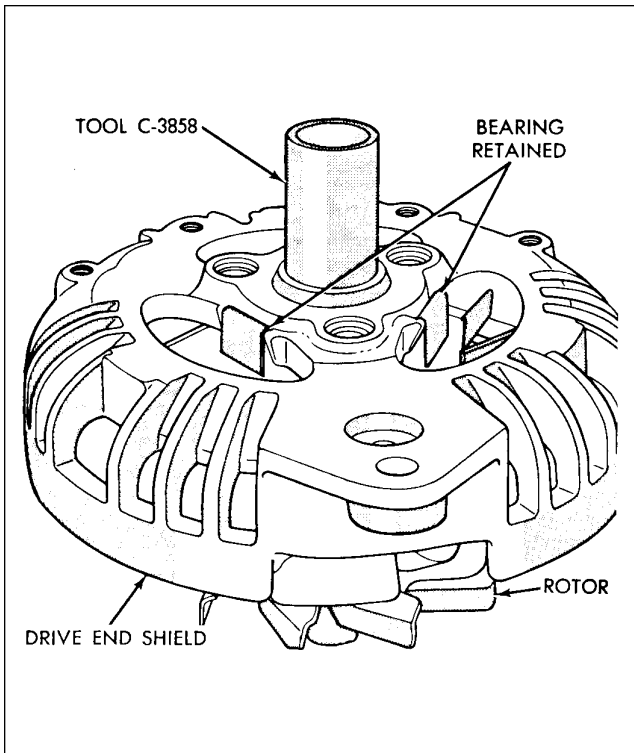

Figure 24-20. Installation of Drive End
4. Position bearing and drive end shield on rotor shaft and while supporting base of rotor shaft, press bearing end shield into position on rotor shaft with an arbor press and tool C-3858. (Refer to Figure 24-20.)